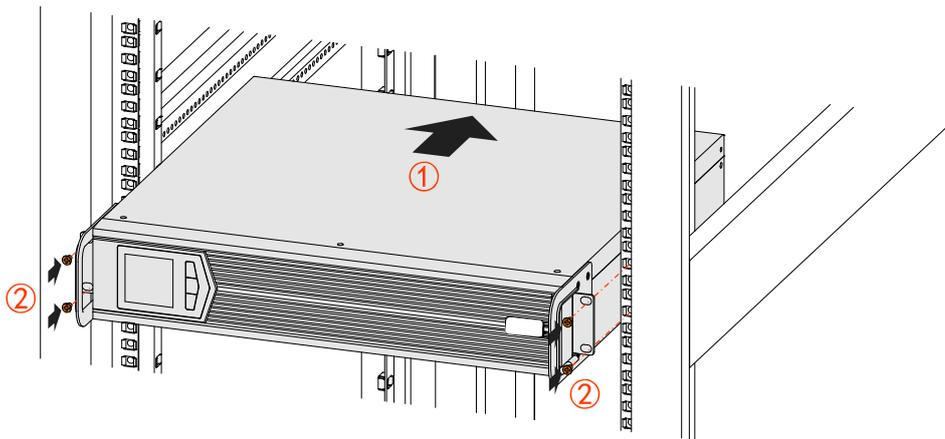

Figure3-2 Fasten the UPS
- Step 2 Push the UPS into the cabinet, and fasten it by screws, as shown in Figure3-2.